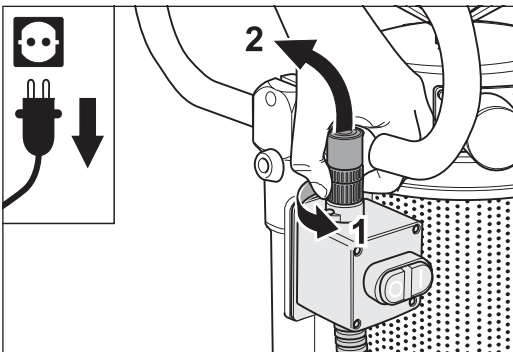

Fig. 63 Loosen the ring nut (1) and remove the cable plug from the switch (2).
- 3 Loosen the cable plug of the sensor on the ON/OFF switch by turning the ring nut **counterclockwise** (fig. 63, 1) and pull the cable plug off (fig. 63, 2).